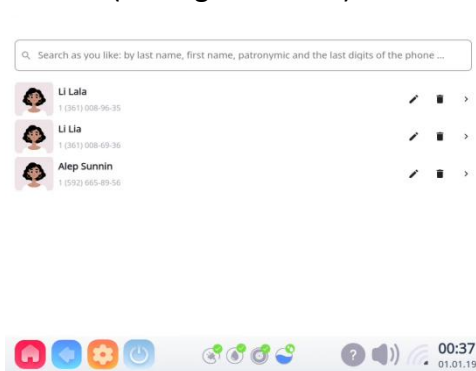
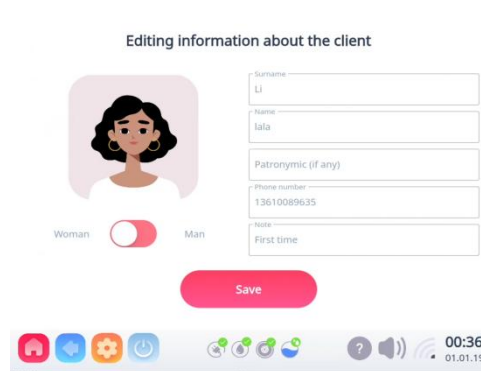

Figure 5.4-19
Figure 5.4-20
- Click “Clients” to view and manage client information (see Figure 5.4-19); Click  to change the customer's personal information; Click  to delete the client information; Click the customer name to edit and change the customer information(see Figure 5.4-20).